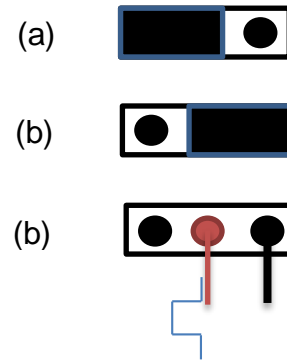

Figure 2. EY1602SI Enable jumper conditions
- 5) **EN (JP9)** - The EY1602SI features an enable pin (EN). When it is pulled low, the IC goes into shutdown mode. In this condition, the device draws less than 2 μ A. Figure 2 shows the conditions of the enable jumper. The device is enabled in Figure 1a which connects the EN pin to VIN through the resistor divider R10, and disabled in Figure 1b which connects EN pin to ground.